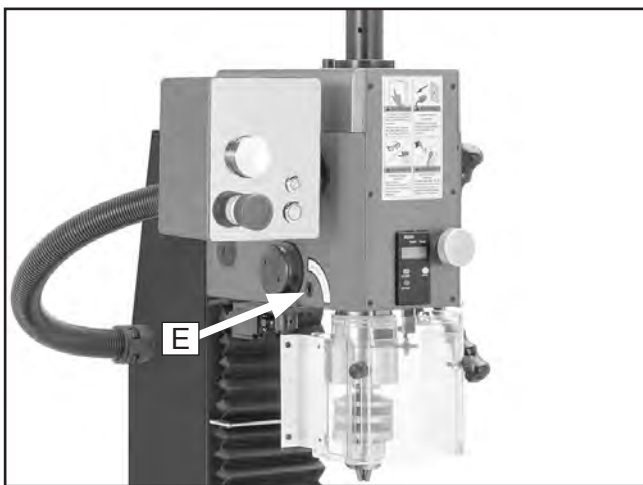

Figure 29. Left spindle downfeed components (G0982 shown).
2. Loosen quill lock with quill lock lever (see **Figure 29**).